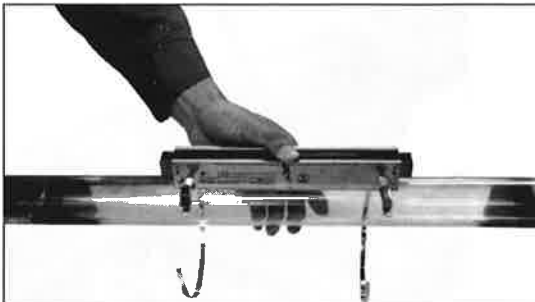

Fig. 3-2
- (2) As shown in Fig. 3-2, apply the frame on the pipe section subjected to a surface treatment.